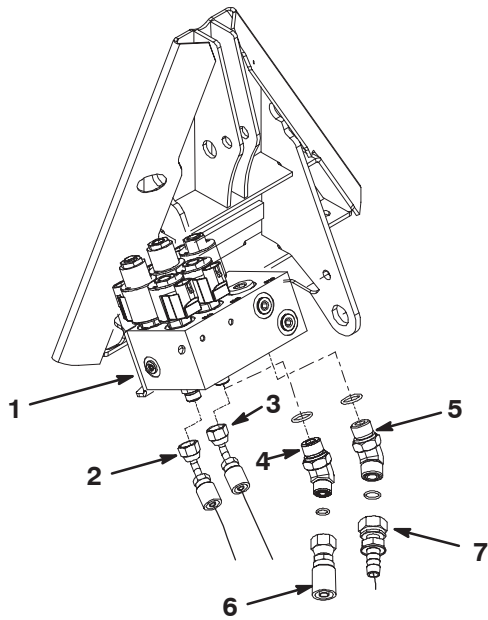
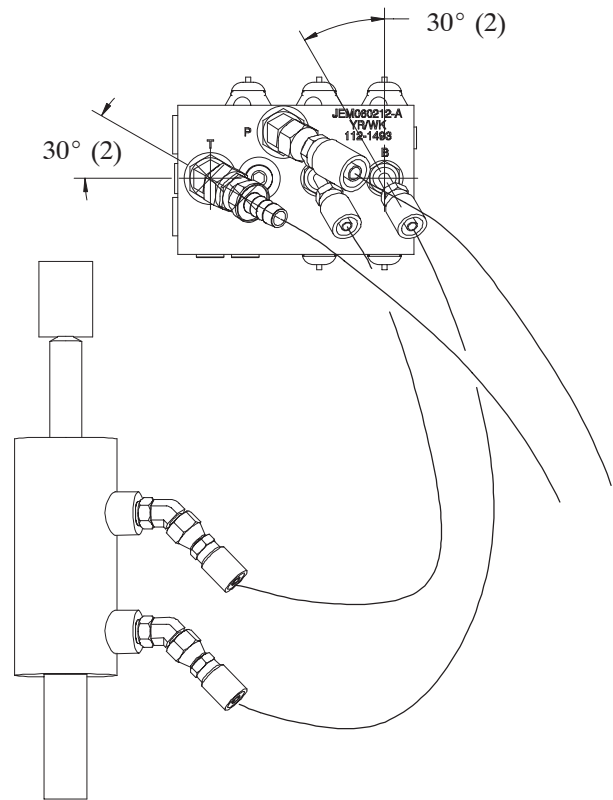

Figure 14
Figure 15
18. Connect the 2 hoses from the hydraulic cylinder to the fittings on the bottom of the hydraulic manifold (Fig. 14 thru 16). Orientate the fitting as shown in figure 15.
19. Thread the 45 degree hydraulic fittings into the bottom of the hydraulic manifold (Fig. 14). Orientate the fitting as shown in figure 15.
20. Secure the short hose (25 inch) to the 45 degree fitting on the manifold (Fig. 14).
21. Secure the long hose (95 inch) to the other 45 degree fitting on the manifold (Fig. 14).